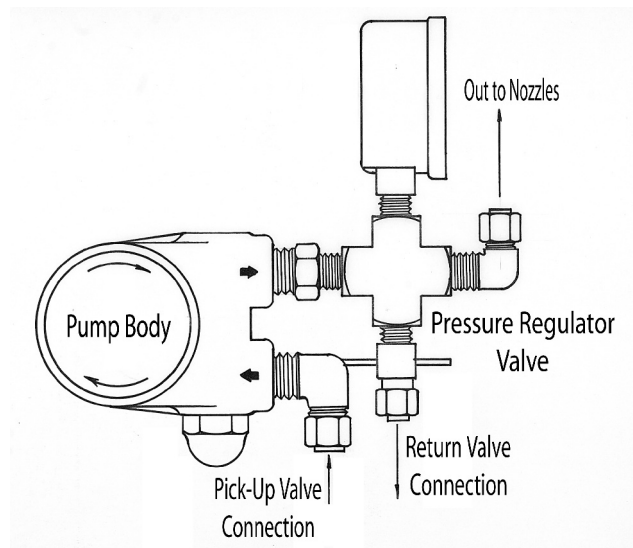

Fig 5
2. Attach the Return Check Valve in the same manner. Feed the 1/4" Tube up through the small hole in the Lid. Insert a 1/4" Insert into the cut end of the tubing, push into the nut on the Pressure Regulator Valve and tighten with a wrench. (Fig. 5, pg. 6).